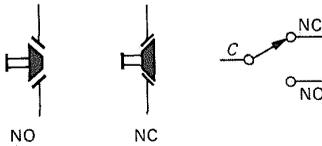

Figure 1.99. Momentary-contact (push-button) switches.
**Push-button switches.** Push-button switches are useful for momentary-contact applications; they are drawn schematically as shown in Figure 1.99 (NO and NC mean normally open and normally closed). For SPDT momentary-contact switches, the terminals must be labeled NO and NC, whereas for SPST types the symbol is self-explanatory. Momentary-contact switches are always “break before make.” In the electrical (as opposed to electronic) industry, the terms form A, form B, and form C are used to mean SPST (NO), SPST (NC), and SPDT, respectively.